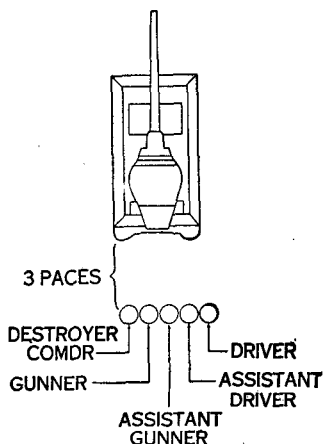

Figure 1. Dismounted posts.
5. FORMATIONS. a. **Dismounted posts.** The crew forms in one rank. The destroyer commander places himself three paces to front (or rear) of right track of vehicle, facing to the front. The others form at double time in line at close interval on the commander's left in the following order, right to left: gunner, assistant gunner, assistant driver, and driver. (See figs. 1 and 2.)
6. TO FORM CREW. a. **Crew being dismounted.** At the command **IN FRONT, FALL IN**, the crew takes dismounted posts in front of the destroyer. (See par. 5a and fig. 1.) At the command **IN REAR, FALL IN**, the crew takes dismounted posts in rear of the destroyer. (See par. 5a and fig. 2.) In falling in, crew members dress automatically on the destroyer commander at close interval and then come to attention without command.
8. TO MOUNT. a. The crew, being at dismounted posts in front of the destroyer (fig. 1), mounts as follows: